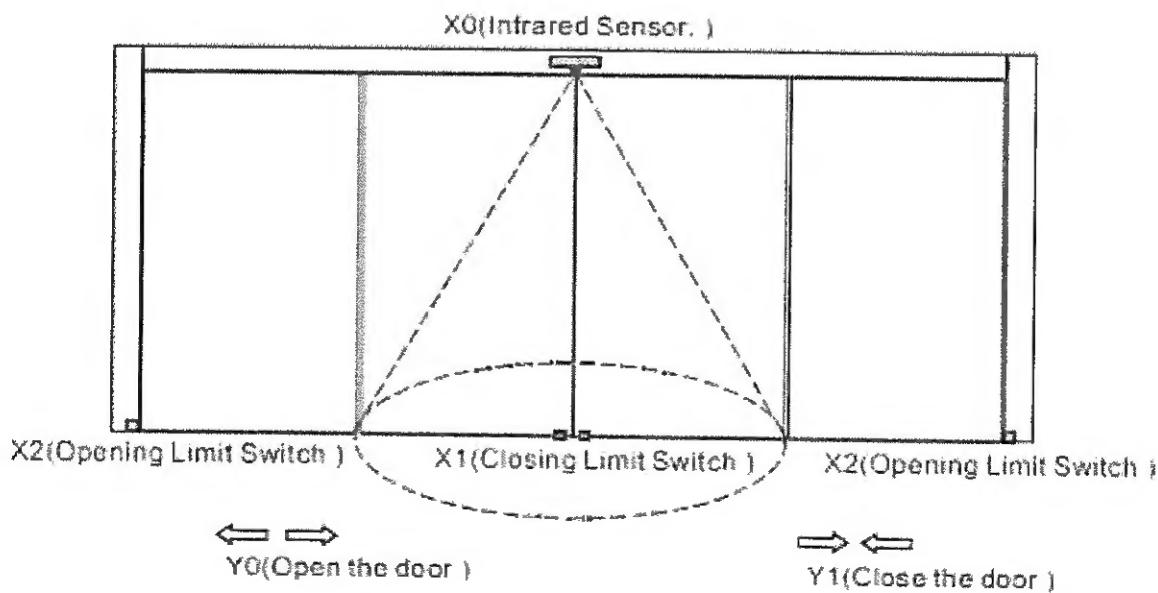

Figure 1-2
- (iii) Add a motion sensor (MS) to detect people approaching the escalator so that the motor can be turned on automatically, besides using the manual switch. [2 marks]
- (iv) Turn on an indicator light (IL) as a second output to display the activation of the motor. [2 marks]
- (b) Design a ladder diagram for an automatic door control as shown in *Figure 1-2* that requires the specifications described below. X0, X1, X2, Y0 and Y1 refer to the I/O assignment as described in *Table 1-1*. **The answer should be drawn into a single ladder diagram only.**